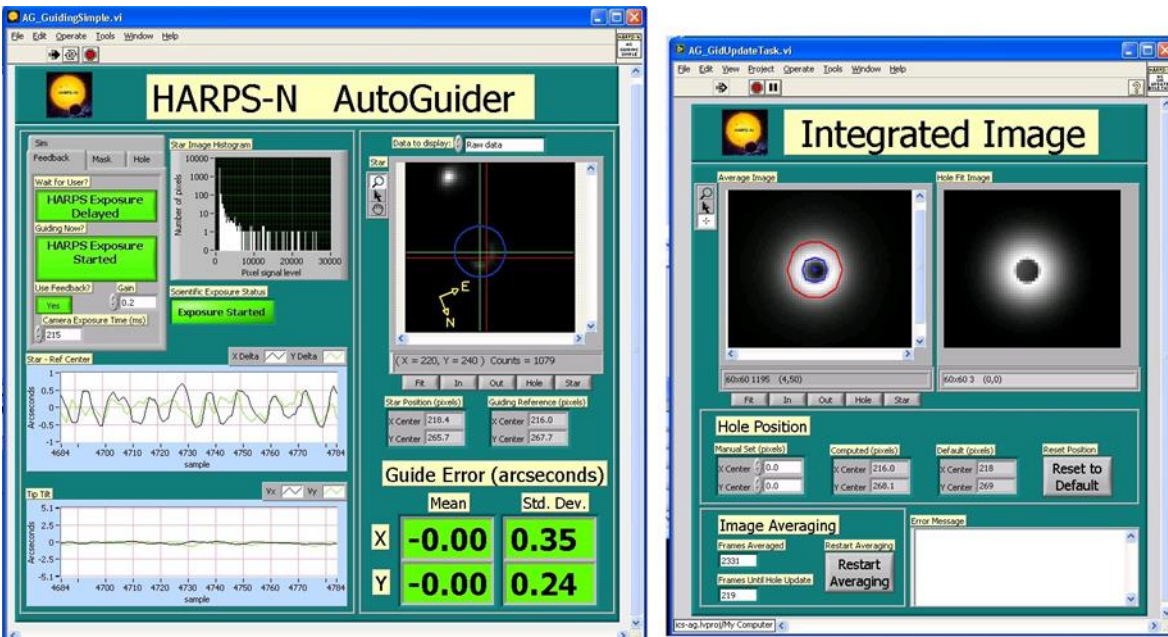
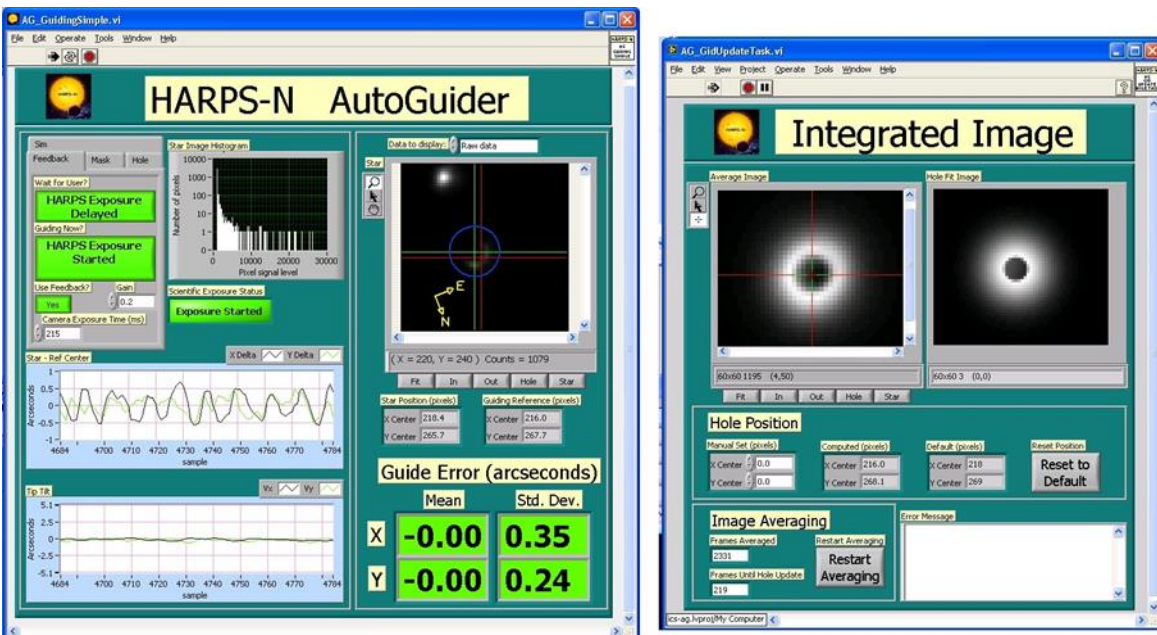

Figure 9 - Autoguider and Front End Monitor (automatic mode)
Figure 10 - Autoguider and Front End Monitor (manual mode)
- During the exposure, especially in long time exposures, verify that the guiding is working in a correct way. The “integrated Image” window of the autoguider (right side of the Figure 9) has to show the star centred in the fiber position and with a shape like a ‘donut’.
The autoguider starts when the observer clicks on the accept button of the sequencer GUI and two windows opens (Figure 9 and Figure 10):
In the HARPS-N AutoGuider windows (Figure 9) the white cross represent the center of the star and the Red Cross is the center of the fiber.